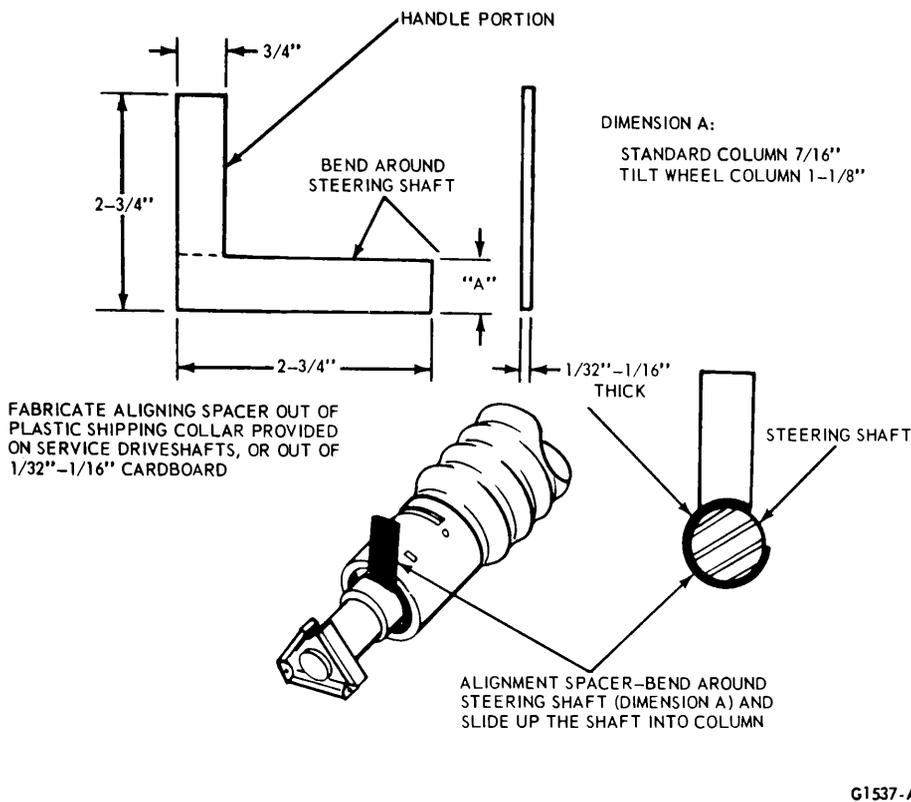

Fig. 2—Aligning Spacer Fabrication and Insertion
8. Working under the hood, install the aligning spacer (Fig. 2) around the visible portion of the steering shaft and slide it up the shaft into the steering column. It may be necessary to move the shaft back and forth to completely install the spacer.